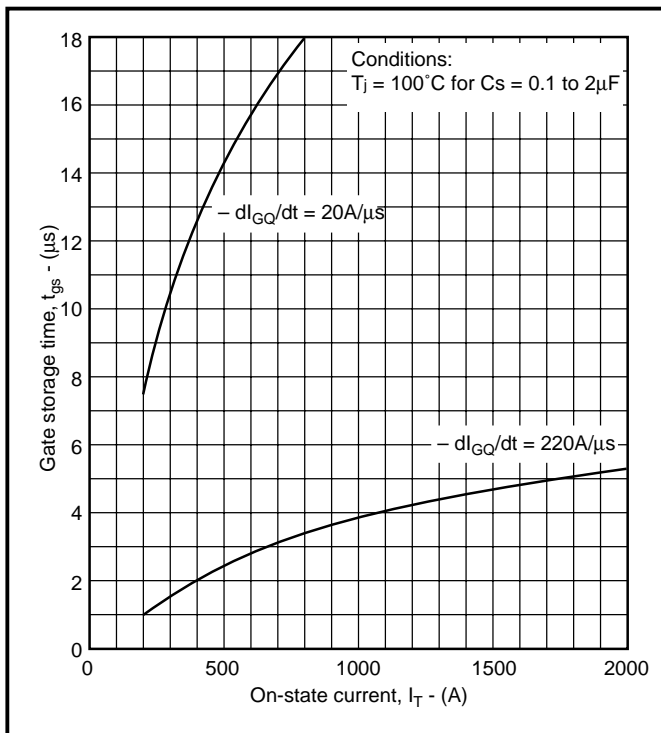

Fig. 7 Gate storage time vs on-state current
3. The reduction in storage time, t_{gs} , is very marked between $di_{gt}/dt = -40A/\mu$ s and $-250A/\mu$ s, typically a factor of 6. It follows that as Δt_{gs} also reduces by a factor of 6 then C_s can be reduced by the same factor for the same change in ΔV . Figure 7. However, by the law of diminishing returns further